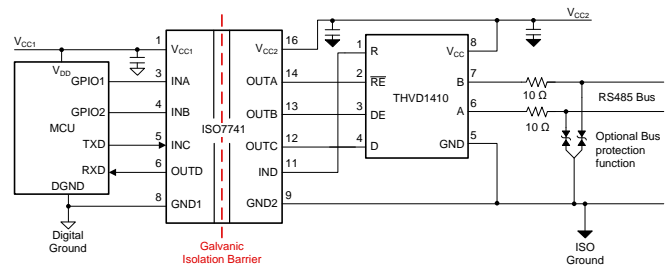
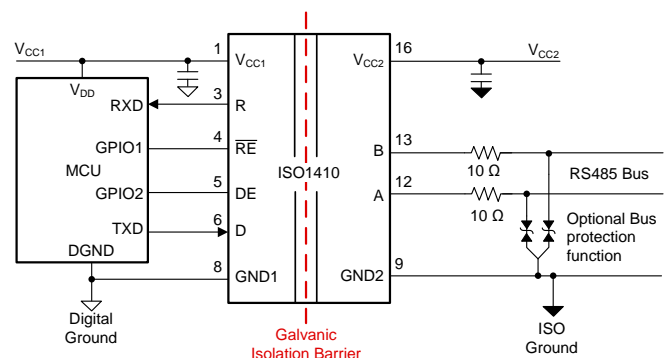
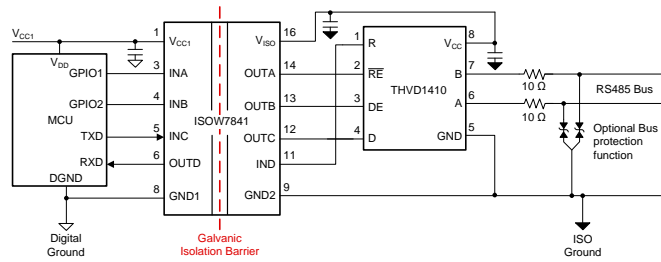

Figure 1. Discrete implementation of isolated RS-485 using ISO7741 and THVD1410
Figure 2. Integrated solution for isolated RS-485 using ISO1410
Figure 4. Isolated signal and power solution for RS-485 using ISOW7841 and THVD1410
There are two common methods for isolating the signal for an RS-485 system. The first method is a discrete solution of a digital isolator and RS-485 transceiver. In this solution, the enables (RE, DE), transmit (D), and receive (R) signals are isolated using a digital isolator such as the ISO7741 between the MCU and the RS-485 transceiver. Figure 1 shows an example of this solution with ISO7741 and an RS-485 transceiver such as the THVD1410. One key advantage of the discrete solution is the flexibility to choose the best transceiver for the specific application. However, the discrete solution comes with the drawback of requiring additional board space because of the multi-chip solution.
By combining the isolator and transceiver into one package, this solution provides system-level board space reduction compared to the discrete solution. Figure 2 shows how the discrete solution from Figure 1 can be replaced with the ISO1410.
The second solution for isolated power would be to replace the ISO7741 in Figure 1 with ISOW7841, which isolates signal and power in a 16-SOIC package. The Isolated RS-485 With Integrated Signal and Power Reference Design shows this solution using the SN65HVD1473 transceiver, but other RS-485 transceivers can also be used depending on the application needs. Figure 4 shows the complete solution for isolated signal and power using the ISOW7841 with the THVD1410.